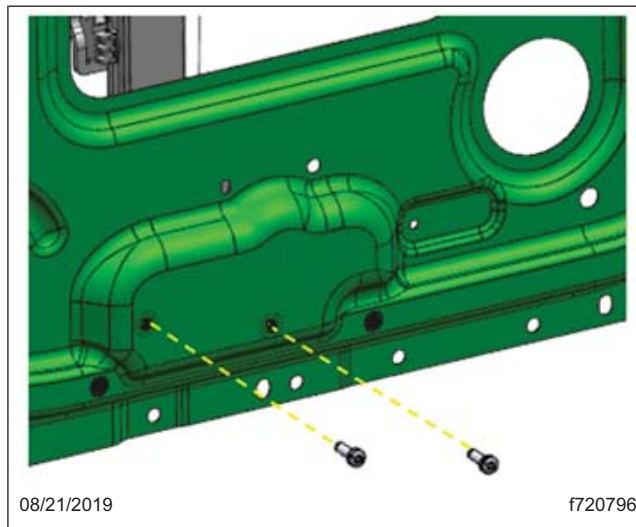

Fig. 12, Screws Fastening Assembly to Lower Inner Door Panel
- 7.2 Fasten the regulator assembly to the inner door panel with two bolts. See Fig. 12. Torque bolts to 5 ± 1 lbf-ft (7 N·m).